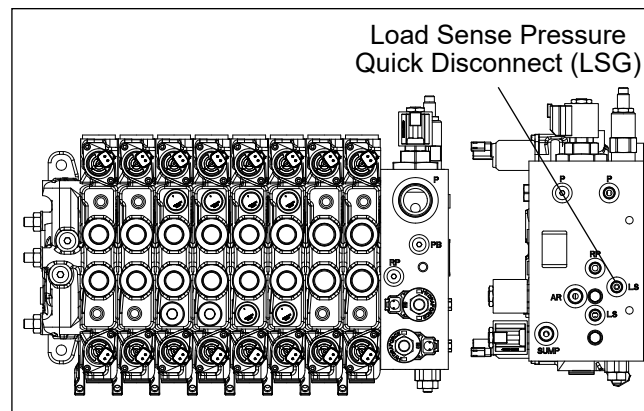

Figure 1—Lower Control Valve
5. Remove the cover on the right side of the turntable as viewed from the boom tip to access the lower control valve (refer to Figure 1).